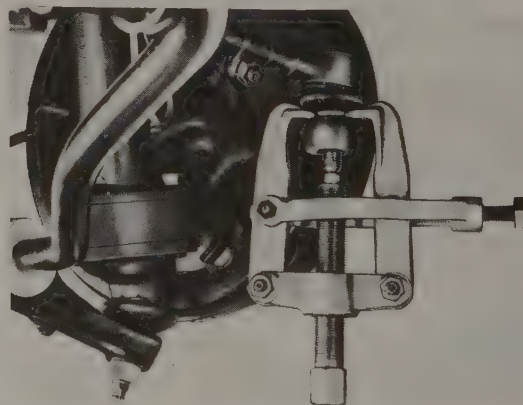

Fig. 7-5. Outer tie rod end being disconnected from steering arm with puller to avoid thread damage (car shown is not one covered by this manual).
The inner tie rod boots can be replaced without removing the tie rod from the steering rack, and alignment adjustments are not necessary as long as tie rod length is unchanged. Disconnect the outer tie rod end from the steering arm. Use a puller as shown in Fig. 7-5 to avoid damage to the threads. Remove the boot clamps and slide the boot off over the outer tie rod end. Installation is the reverse of removal. Torque the tie rod end stud nut to 35 Nm (26 ft. lb.).
Only complete tie rods are supplied as replacement parts. Tie rod ends for the adjustable right-side tie rod are not separately available. All replacement tie rods are adjustable. When replacing a non-adjustable left-side tie rod, the new adjustable tie rod must first be adjusted to a standard length. Use a puller to disconnect outer tie rod ends from the steering arms, as shown in Fig. 7-5 above. Use a thread locking compound such as Volkswagen's D6 when installing tie rods.
1. Remove the nut from the outer tie rod end in the steering arm, and press the stud out using a puller, as shown in Fig. 7-5 above.